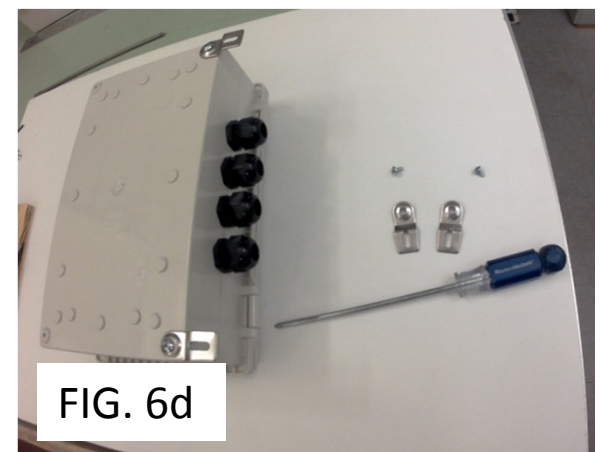

FIG. 6d
- Attach mounting hardware to the bottom of the waterproof box (Fig. 6d).